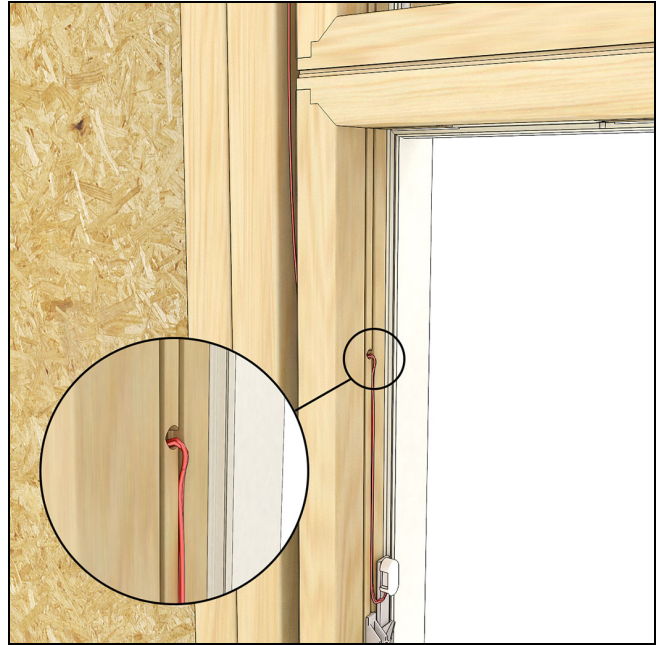

Figure 9
4. **Horizontal Mulls:** first unlock, open the sash and remove the jamb covers on the window that houses the sensor. Operate the lock so the tie bar is fully extended. Then use a 1/4" drill bit to bore a hole through the top area of the jamb (above the extended tie bar) into the R.O. See Figure 9.